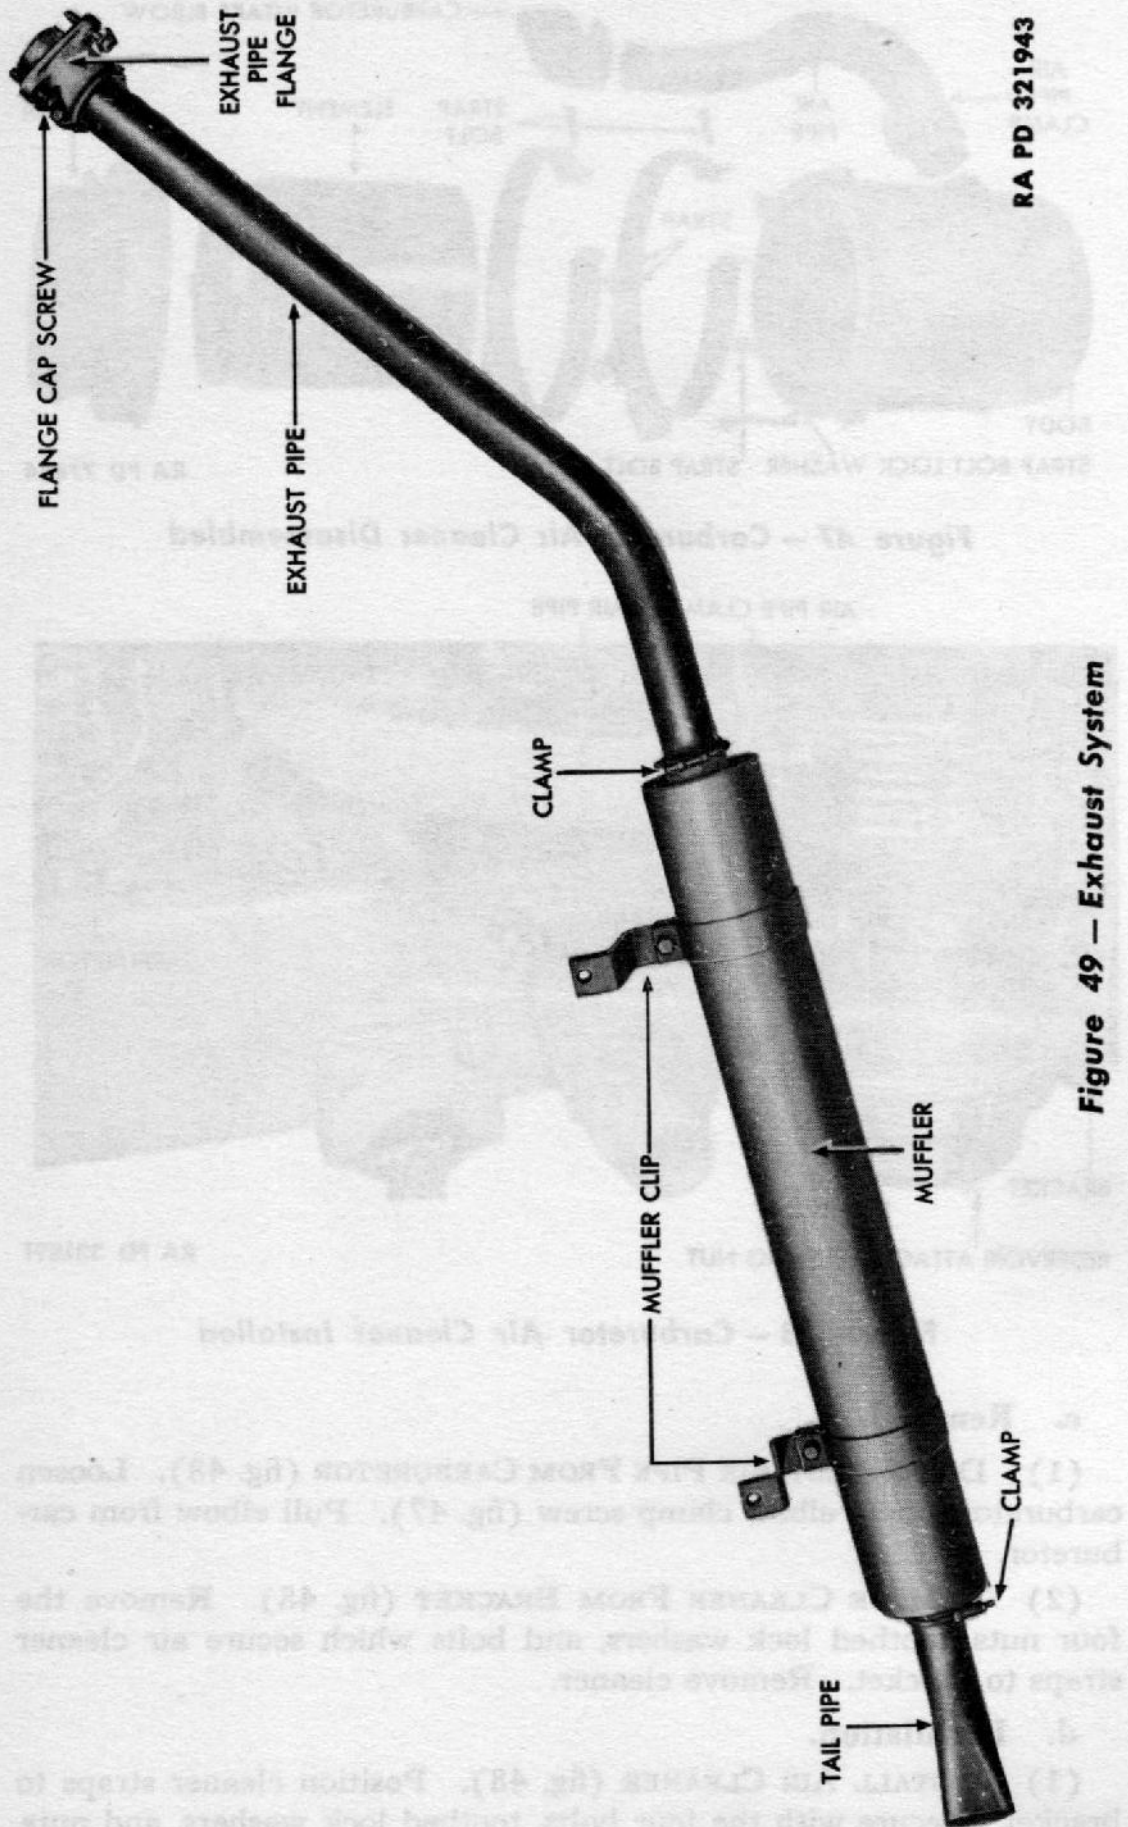

Figure 49 — Exhaust System
a Description (fig. 49). The exhaust pipe, muffler, and tail pipe conduct exhaust gases from the engine and discharge the gases into the atmosphere at a point directly in front of the right rear wheels.
b. Removal (fig. 49).
(2) **REMOVE MUFFLER** (fig. 49). Mark ends of muffler to facilitate correct installation. Loosen the bolt, nut, and lock washer which secure sleeve to exhaust pipe. Remove the two nuts, lock washers, and bolts which secure muffler clips to frame side rail. Pull muffler from exhaust pipe.
(3) **REMOVE TAIL PIPE** (fig. 49). Loosen tail pipe clamp. Pull tail pipe from muffler.
(2) **INSTALL MUFFLER** (fig. 49). Position muffler to frame side rail. (Note markings for correct installation.) Slide muffler sleeve over end of exhaust pipe. Install the two bolts, nuts, and lock washers which secure muffler clips to frame side rail. Tighten bolt, nut, and lock washer which secure sleeve to exhaust pipe. Install tail pipe (step c (1), above).
(3) **INSTALL EXHAUST PIPE** (fig. 49). Use new gasket. Position exhaust pipe at front end to manifold. Secure with three bolts, six lock washers, and three nuts. Tighten cap screw which secures flange to exhaust pipe. Tighten nuts alternately, a few turns at a time, until all are tight.